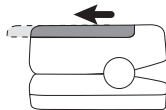

Fig. 3a
1. Shift the bottom panel and then open it (fig.3a).